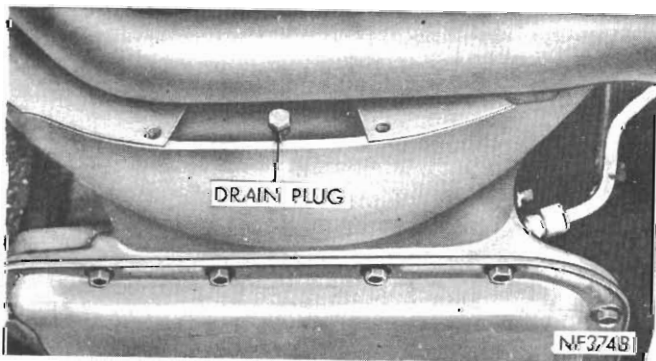

Fig. 22 - Converter drain plug
(2) Remove flywheel access plate and remove the torque converter drain plug and allow to drain (see Fig. 22).